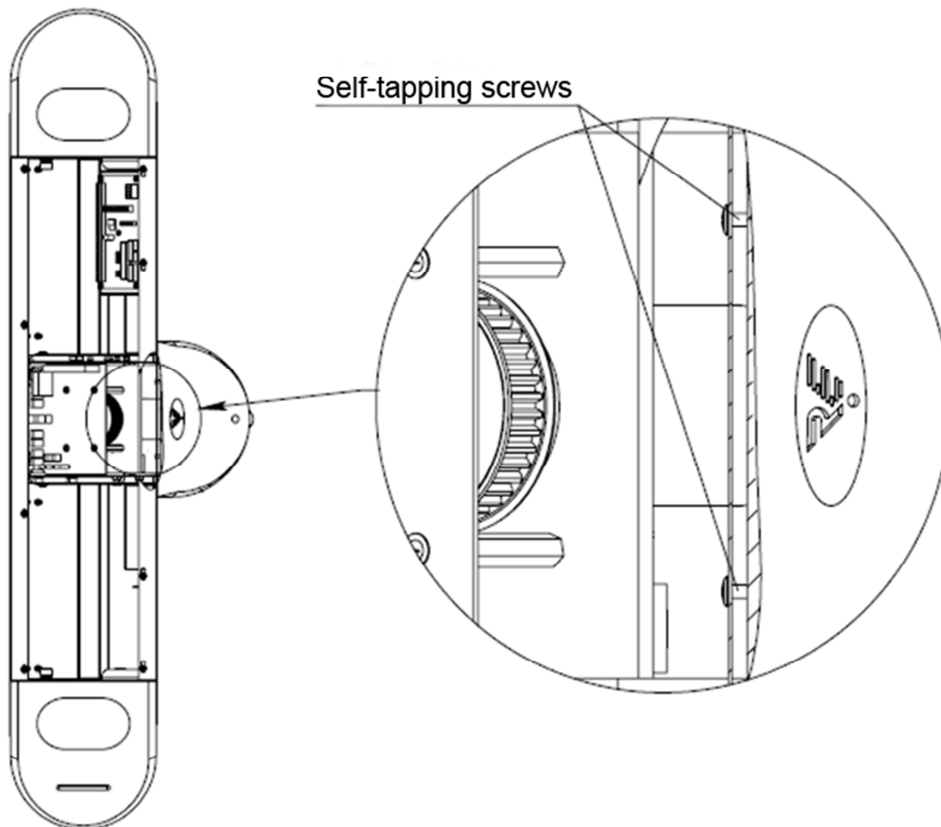

Fig. 4
- Remove two self-tapping screws using a crosshead screwdriver with a magnetic tip (Fig. 4)